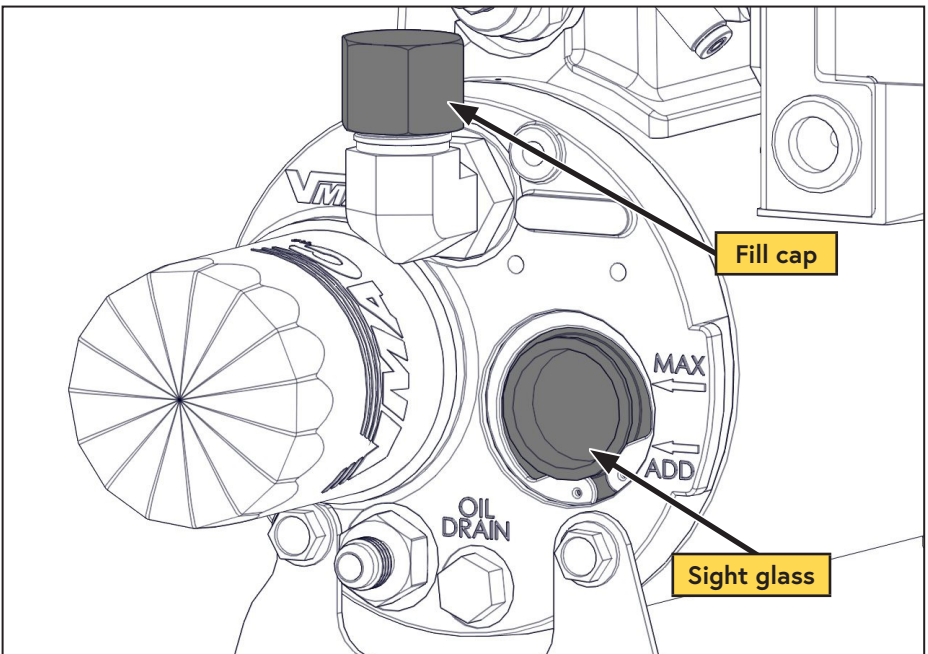

Figure 44 — Filling the WHASP Tank
- Remove the fill cap on the WHASP Tank (above the sight glass) (Figure 44).
- Using a funnel, pour oil into the tank until the oil level in the sight glass reaches the "MAX" line. **The system capacity is 4 L** (Figure 44).